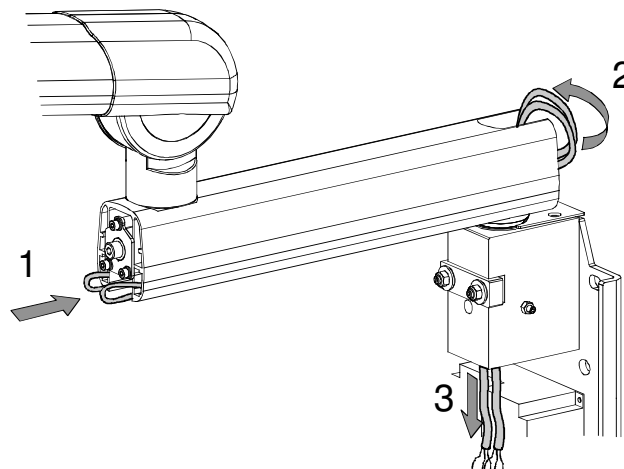

Figure 6-11
9. Insert the cables inside the extension arm (power cable on one side and filament cable and the grounding cable on the other side) following the drawing in Figure 6-11 (fase 1); this will make sure that the cables are not tensioned during use. To make this easier, wrap together the grounding and filament cables with tape.